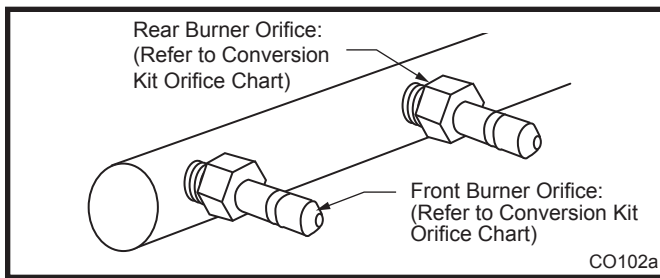

Fig. 70 Burner orifice replacement.
6. Remove burner orifice from manifold assembly using 7/16" wrench. (Fig. 70)